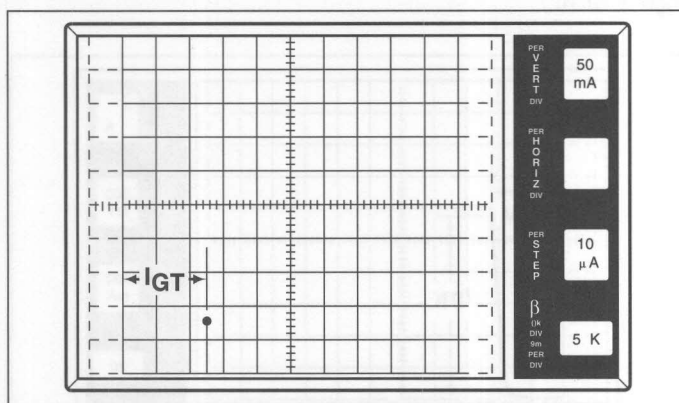

Figure 19.7 I_{GT} is 25 μ A
3. Gradually increase *Offset Multiplier* until device reaches the conduction point. (See Figure 19.7.) Measure I_{GT} by following horizontal axis to the point where the vertical line crosses axis. This measured value is I_{GT} .